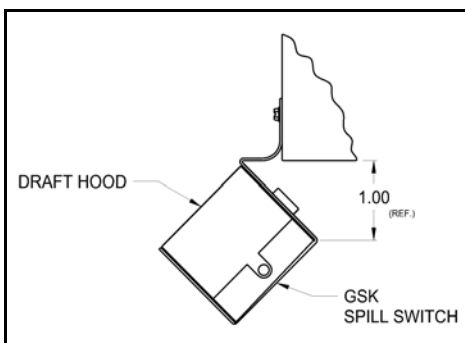

Figure 4
2. The switch should not contact the metal. They should be mounted at least 1 inch below the hood opening. (See Figure 4) Mount with supplied sheet metal screw.